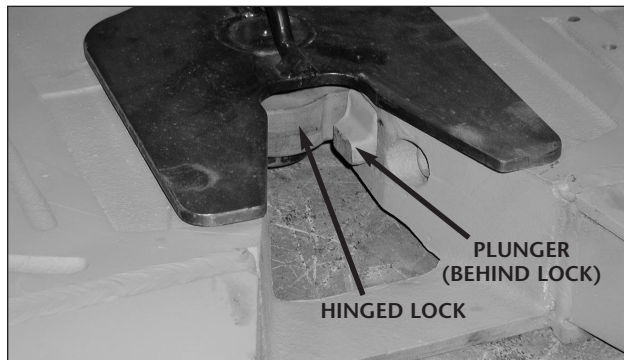

FIGURE 12
1. Close the locks, using a Holland TF-TLN-5001 Lock Tester. Operation of the tester is described in Holland publication XL-FW340. When operating properly, the plunger (2) will slide freely behind the hinged lock (8B) (see Figure 12).